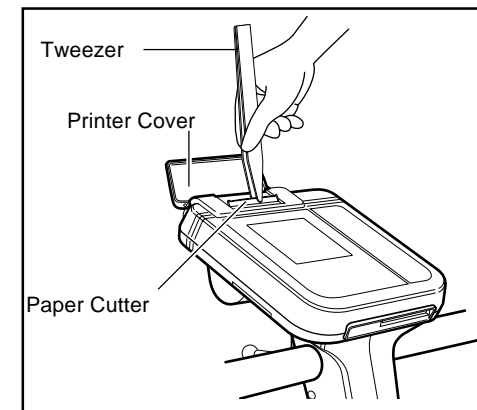

Fig. 3
- Remove the thermal paper if it is jammed. (Fig. 3)